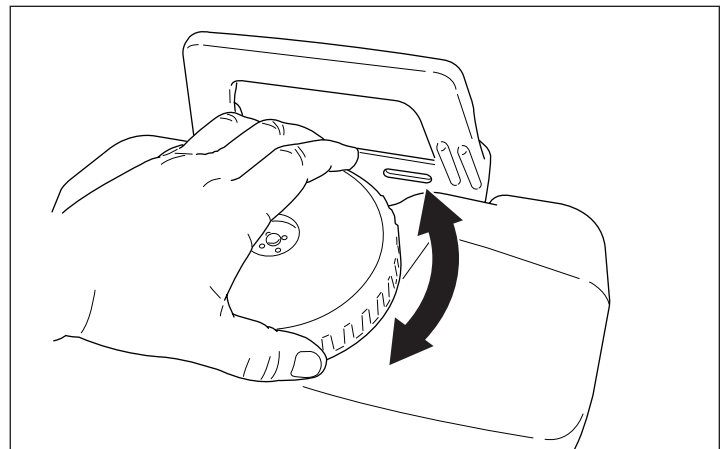

Figure 12. Remove & Reinstall Tank Cap
1. Remove the cap from the tank. Turn the cap 1/4 turn counterclockwise. See Figure 12.